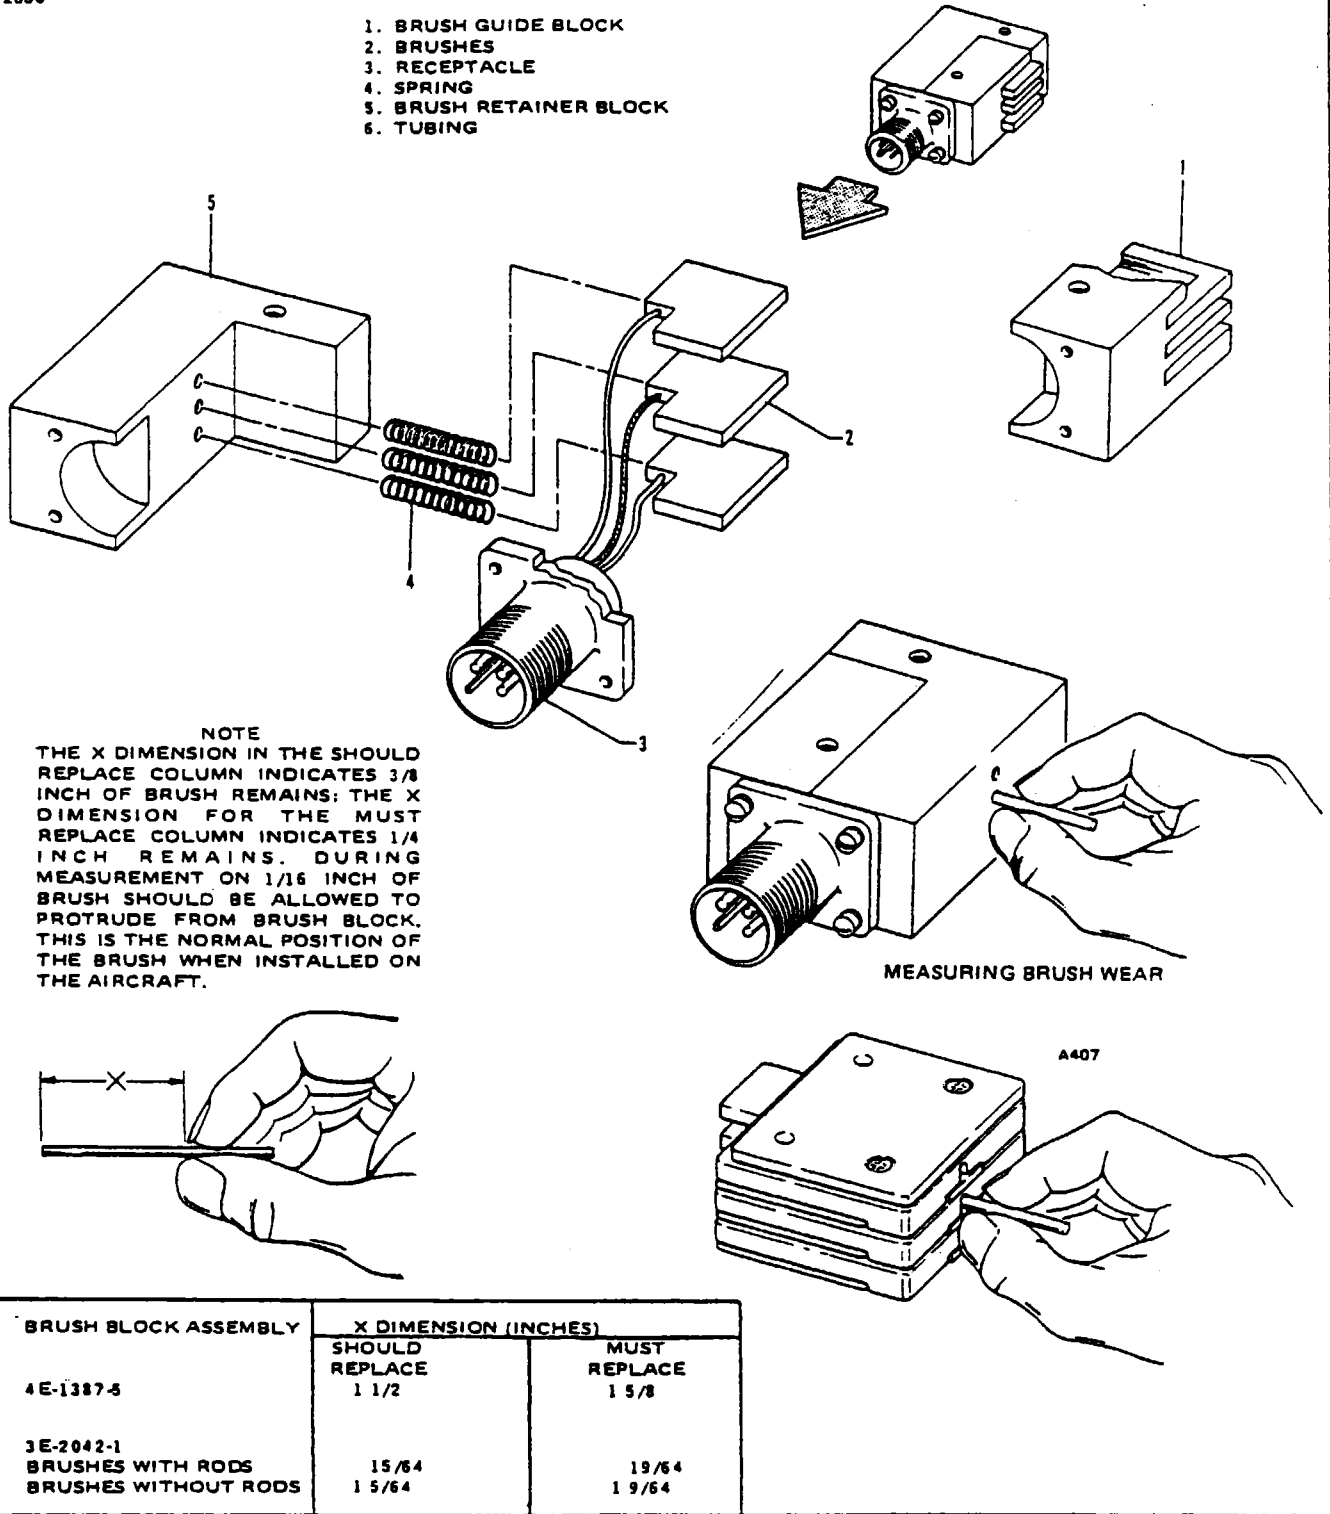

Figure 14-9. Brush Block Assembly
14-13. BRUSH RETAINER REPLACEMENT. Brushes should be replaced when .375 inch of brush material remains; brushes must be replaced when .250 inch remains. Measure the brushes as shown in Figure 14-9. Replace the brush retainer as follows:
- d. Determine correct orientation of brushes to receptacle (refer to Figure 14-9) and carefully insert brushes into brush guide block slots. When reassembling brush retainer assembly, align receptacle as shown in Figure 14-9.
- d. Install insulating tubing over brush leads and solder brush leads to receptacle pins; follow pin identification as shown on Figure 14-9.
14-18b. BRUSH MODULE REPLACEMENT. Brush modules should be replaced when .375 inch of brush material remains; brush modules must be replaced when .250 inch remains. Measure the brushes as shown in Figure 14-9. Replace brush modules as follows: